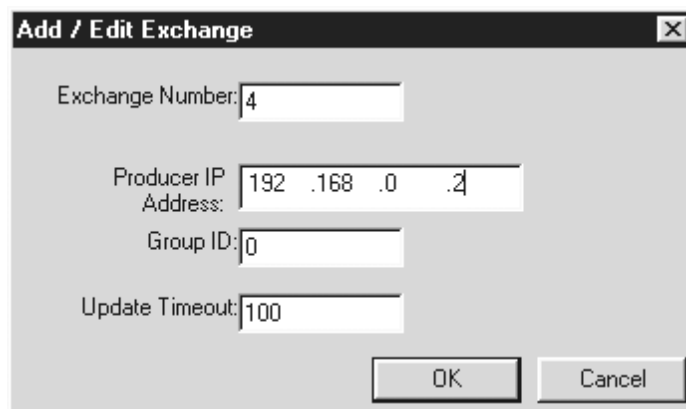

Figure 3.33 – Adding a Consumed Exchange for a Single IP Address
Step 7 (Refer to Figures 3.33 and 3.34.) To configure, enter a unique **Exchange Number** . The **Producer ID** is the IP Address or Group ID from which the exchange is received from.
- If the exchange (a block of data) is going to be received from one device, enter the **IP Address of the node** that will send the exchange (**Figure 3.33**).